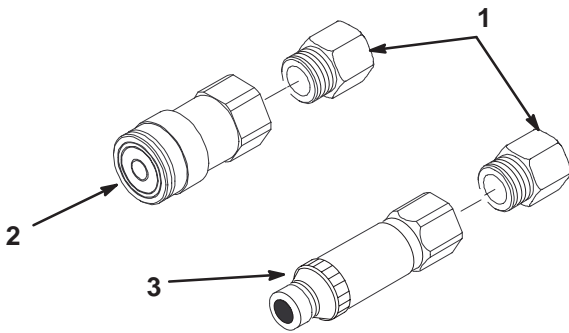

Figure 1
4. Thread an adapter into both the new male and female, flush-face couplers (Fig. 1).